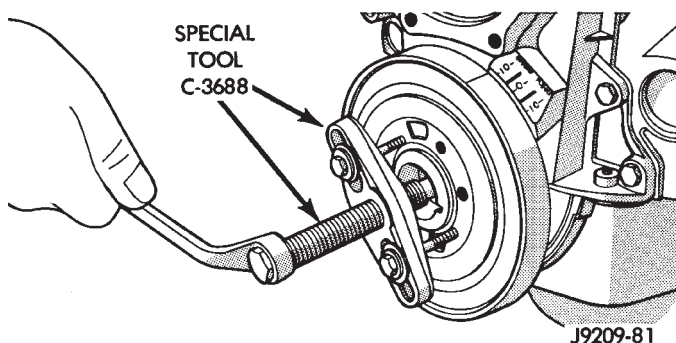

Fig. 20 Vibration Damper Assembly
- (1) Disconnect the battery negative cable.
- (2) Remove the cooling system fan.
- (3) Remove the cooling fan shroud.
- (4) Remove the accessory drive belt (refer to Group 7, Cooling System).
- (5) Remove the vibration damper pulley.
- (6) Remove vibration damper bolt and washer from end of crankshaft.
- (7) Install bar and screw from Puller Tool Set C-3688. Install 2 bolts with washers through the puller tool and into the vibration damper (Fig. 20).